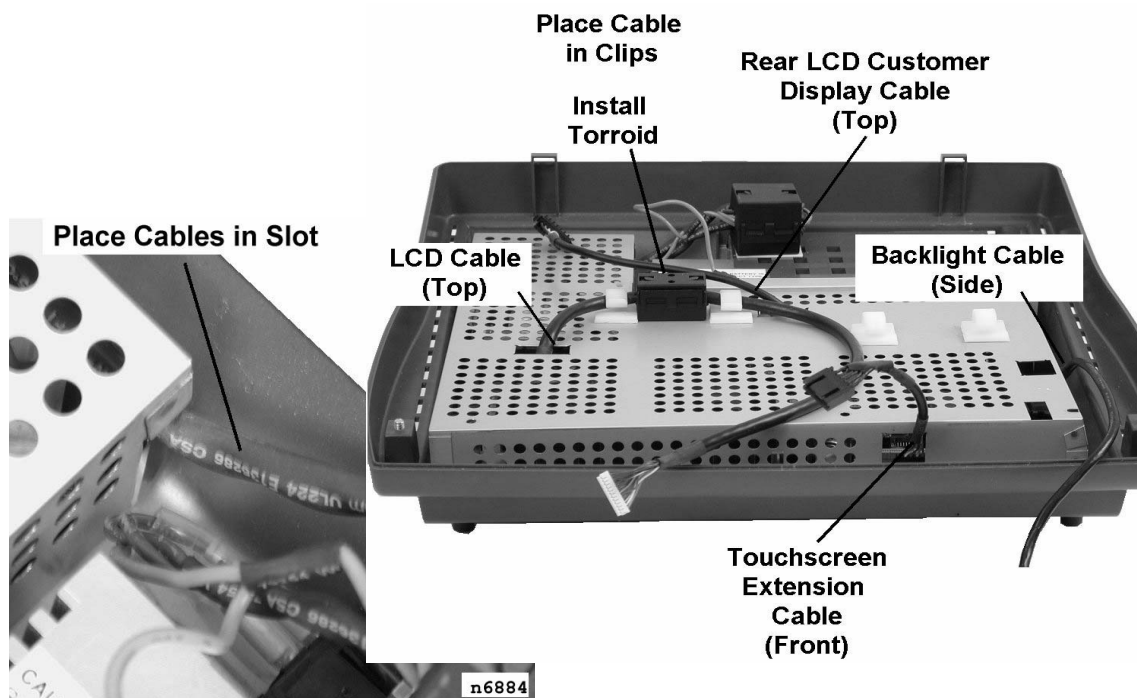

Figure 2-22: Routing cables through the RF Shield
2. Reinstall the RF Shield. Figure 2-22 shows the details.